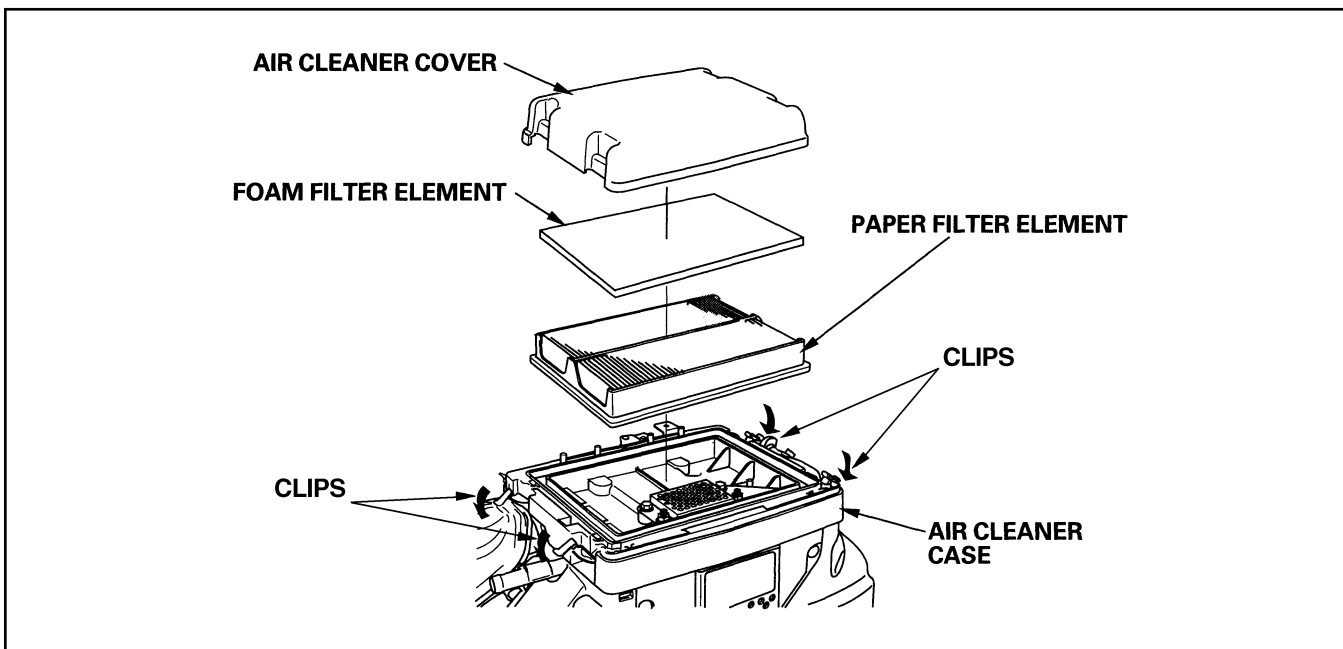

FIGURE 6–12. AIR CLEANER
2. Loosen the four spring clips (Figure 6–12).